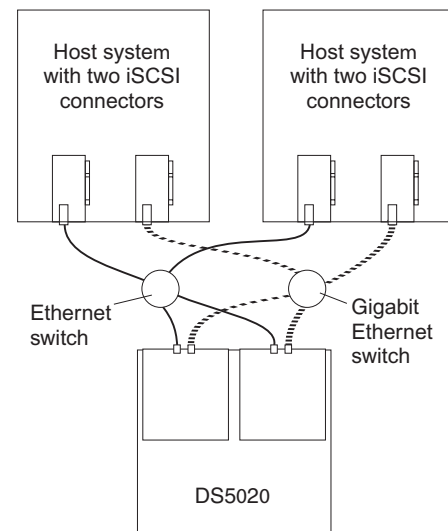

Figure 62. Example of a multiple-host, multiple-port configuration
- Multiple-host, multiple-port configuration, as shown in Figure 62 on page 91
Figure 62 shows a multiple-host, multiple-port configuration. For cluster configurations, the following illustration is an example of a multiple-host, multiple-port, and redundant path and controller configuration. You can replace the two gigabit Ethernet switches in the illustration with one large gigabit Ethernet switch that has the required number of ports. Virtual local area network (VLAN) can also be used to isolate the two iSCSI networks, instead of a single switch.